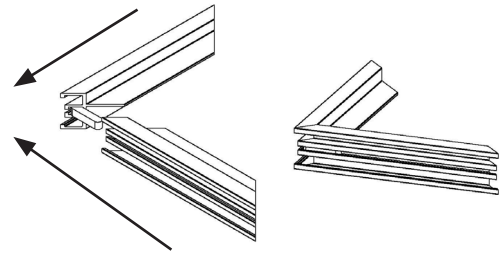

FIG 5
2. After consulting the shop drawings, assemble the frame using the corner keys provided (FIG 5). If the size of the frame requires, join the marked frame lengths together with the roll pins provided.